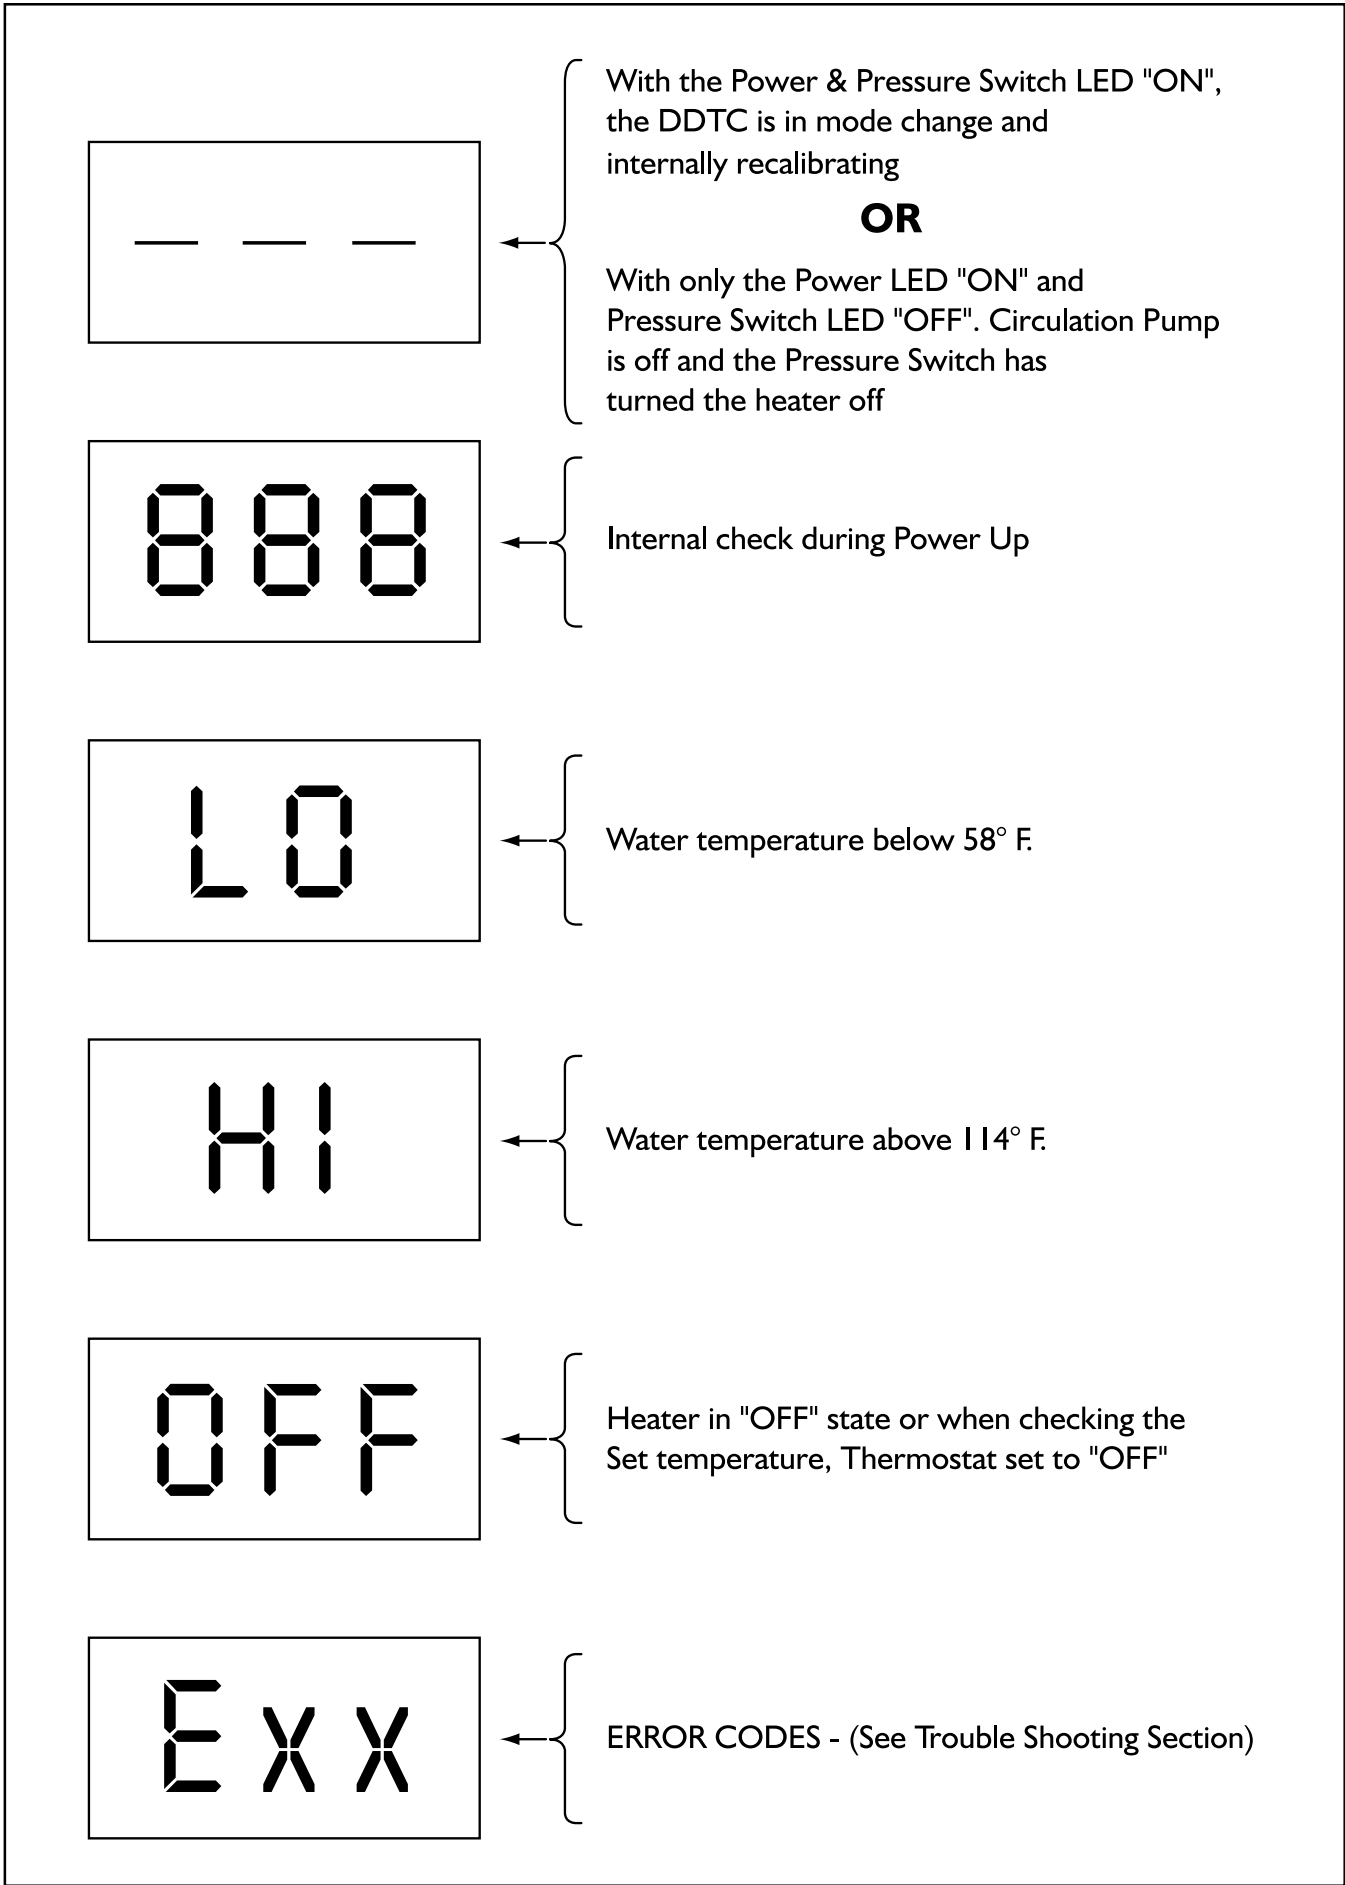

Figure 8.
The MiniMax NT Heater comes from the factory preset with a pool temperature setting of 78° F. and a preset spa temperature of 100° F., and in the off mode setting. Once the power is turned on, the DDTC board will do a self diagnostic internal check, during this time the display will first read “888”, then the display will switch to three dashes “---“, this process takes approximately ten (10) seconds. The DDTC will then illuminate the “Power” LED and “Off” LED, see Figure 8.
The DDTC temperature display contains three LED’s with a decimal point between the first and second, this display is also used to display an error code if for some reason there is a failure within the heater control system or a DDTC internal fault. The DDTC will display the actual temperature or set-point temperature or OFF, as selected by the user. When DDTC detects an error, the display will show Exx, see Figure 8, where Exx is the error code of DDTC fault, see Table 1. Codes 1 through 9 indicate a “soft lockout” error that means after these errors are fixed, the heater will resume normal operation and restart immediately. Code ERR indicates a “hard lockout” error that means after these errors are fixed, you need to reset the power of the heater through the switch on the bottom of the electrical junction box on the right side of the cabinet.